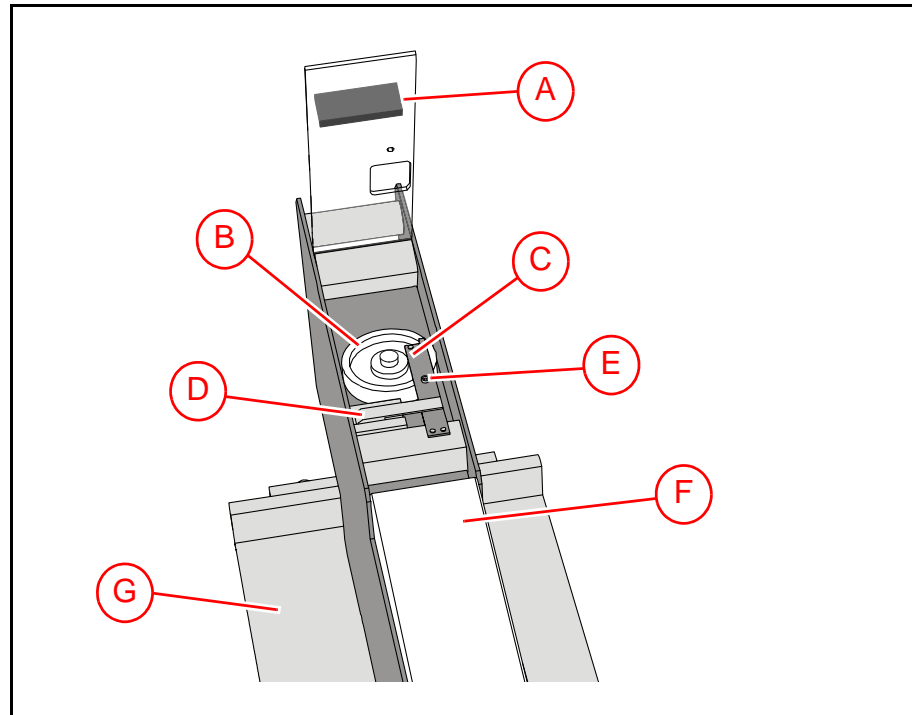

Figure 14-3. Glue station parts.
Figure 14-3 points out the main parts of the glue station. These parts are briefly mentioned below.
- Plastic cover with handle ('A' in Figure 14-3).